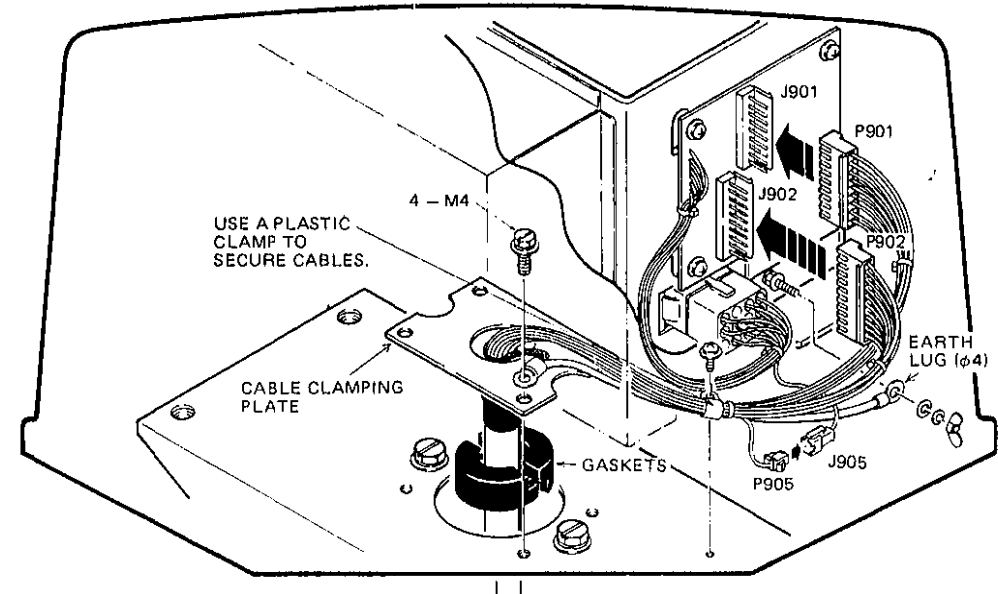

Fig.9 Cable Assembly and Connection
14. Put the transceiver module back into position and secure it with the four M6 bolts. Then, mate the three plugs, referring to Fig.9.